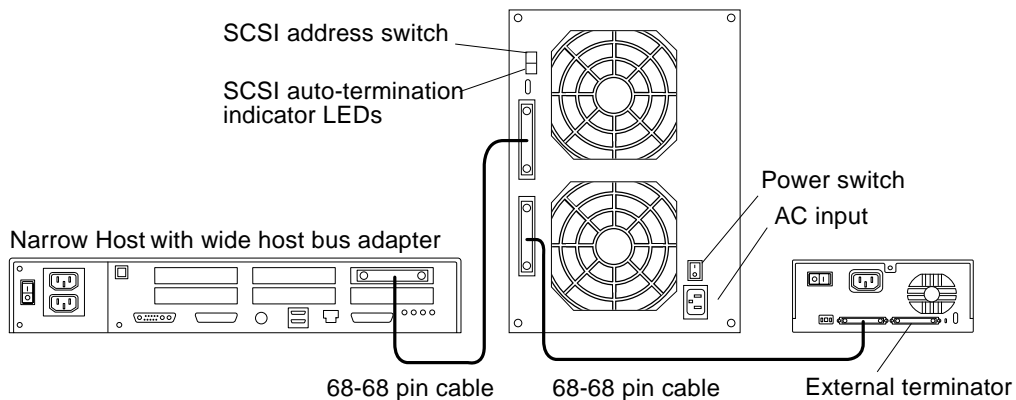

FIGURE B-4 SPARCstorage MultiPack 2 Unit in a Daisy-Chain Connection
1. Connect one end of the SCSI cable to the SCSI port of your host system (FIGURE B-4).